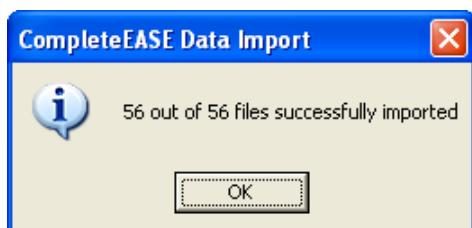

Figure 11-4. Message after all files imported correctly.
4. After the files are imported, a message will appear, as in Figure 11-4.